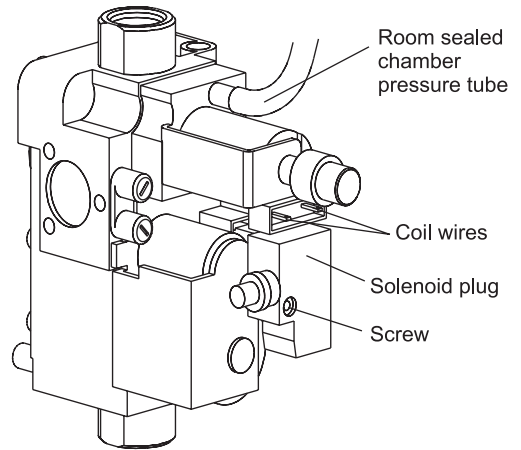

Fig. 26
8.11 GAS VALVE - Fig. 26
3. Loosen the one screw (see Fig. 26) securing the electrical plug and disconnect the plug.